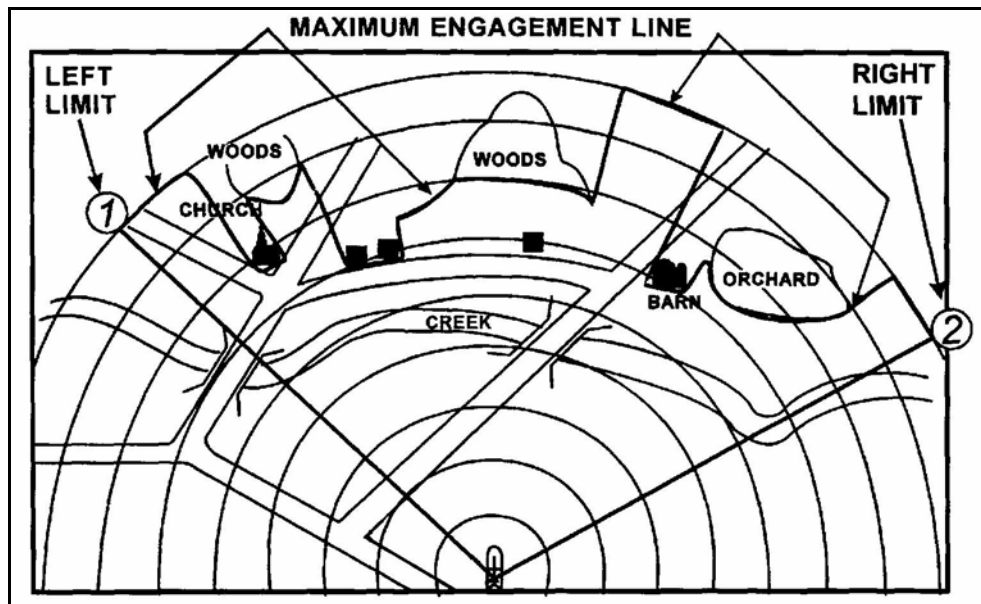

Figure B-6. Sector of fire and maximum engagement line.
c. **Left Limit and Right Limit.** Left and right limits are imaginary lines from the gunner's firing position to a designated point on the ground (Figure B-6). Use terrain features when possible to designate left and right limits. Other recognizable objects such as a building or other man-made structures can be used. The area between the left and right limits depicts the gunner's sector of fire or area of responsibility. Lines are drawn from the designated firing position to the MEL in the area of the designated limits. Number the left limit as *No. 1*, number the right limit *No. 2*, and place a circle around each number. **Record the azimuth and distance of each limit in the data section.**
d. **Maximum Engagement Line.** The MEL designates the maximum effective range of a weapon (Javelin) and the gunner's line-of-sight limitations due to the terrain in his given sector of fire (Figure B-6).
(1) If there are no limitations, draw the MEL along the last circle in the sector sketch section. The line should connect with the left and right limit labels.
(2) If there are limitations, starting at the left limit, draw the MEL in front of the limiting terrain features. The MEL should extend in front of and follow the limitations until it reaches the right limit.